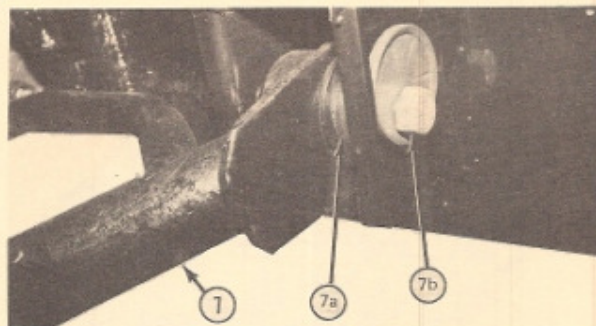

Figure 121 – Upper "A" Arm Installation
b. Install camber bolts and washers with smooth side of washer always pointed to center of "A" arm on both sides (see figure 121).
b. Install ball joint flexible boot from below; then secure with four (4) binding locknuts.